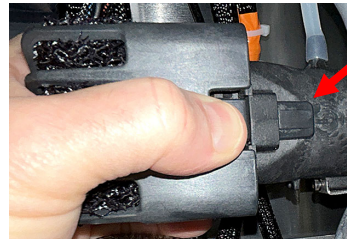
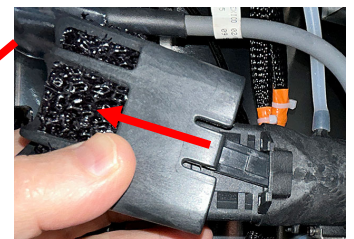

Figure 6
Figure 7
- 3) Remove the filter bracket by gently pressing in on the left and right tabs on both sides of the bracket (see Figure 6), while gently pulling the bracket off the fan (see Figure 7).